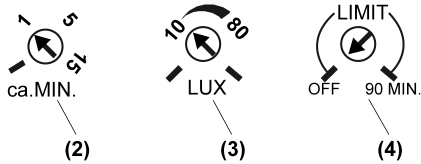

Figure 3: Power pack adjuster
- Turn the **MIN** adjuster (2) to the required position (Figure 3).
- Turn the **LUX** adjuster (3) to the required position (Figure 3). A setting of approx. 10 lux activates the device at the start of twilight. For switching independent of brightness, turn the adjuster to the far right.